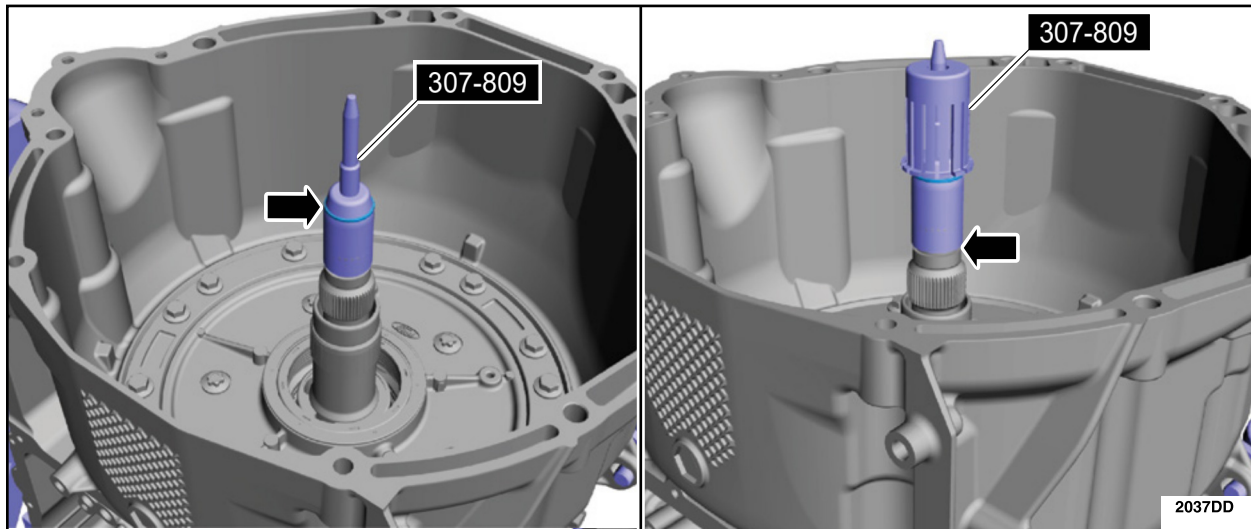

FIGURE 22
25. Install a new Teflon® seal on special tool 307-809. Using the top half of the special tool, slide the Teflon® seal into the groove. Remove the special tools and repeat the steps for the other damaged torque converter seals. See Figure 22.